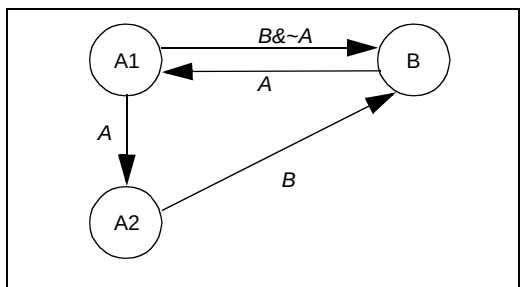

**Figure 20-3. State diagram of round robin arbitrator with 2 requesters; A has double weight.**
**Figure 20-3** pictures a state machine with two requesters A and B with double weight given to requester A. There are now 2 states A1 and A2 where requester A has ownership of the highway. When both A and B requests are asserted, requester A will have ownership of the highway twice as often as requester B.